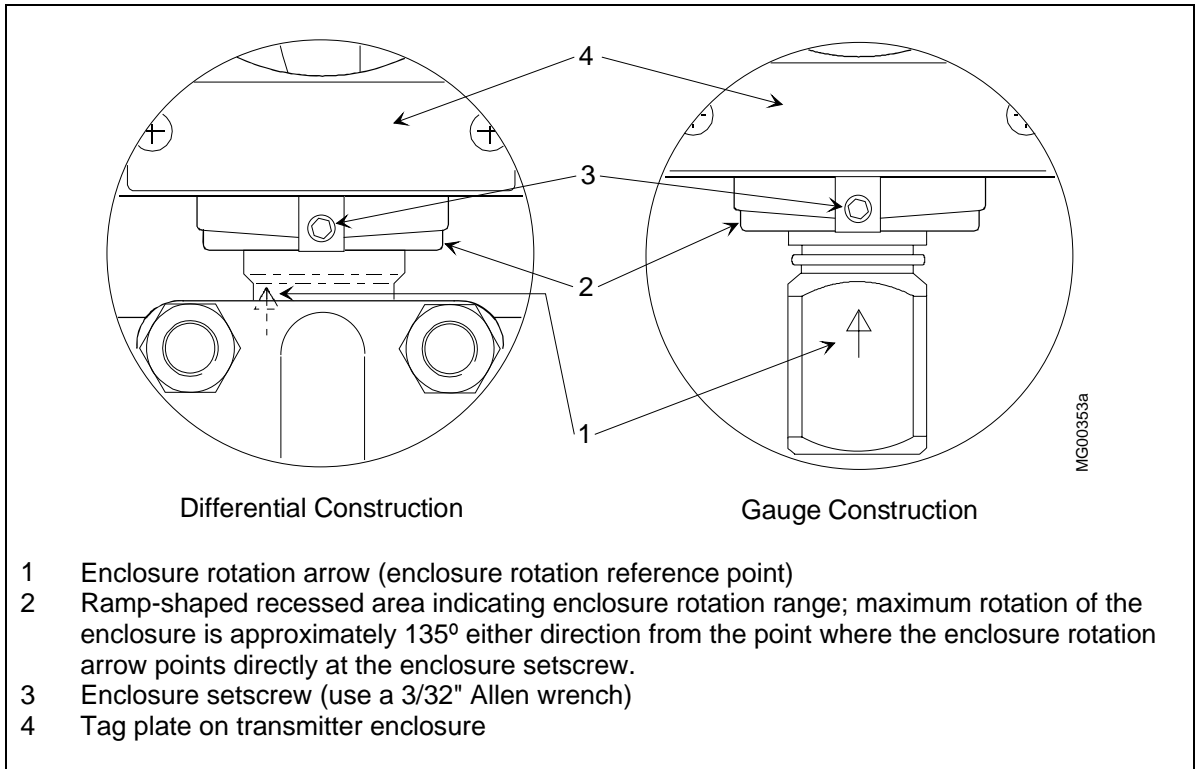

FIGURE 13 Enclosure Rotation Considerations
- Loosen the enclosure setscrew using a 3/32" Allen wrench. The enclosure can be rotated approximately 135° in either direction from the point where the enclosure rotation arrow points directly at the enclosure setscrew. See Figure 13.